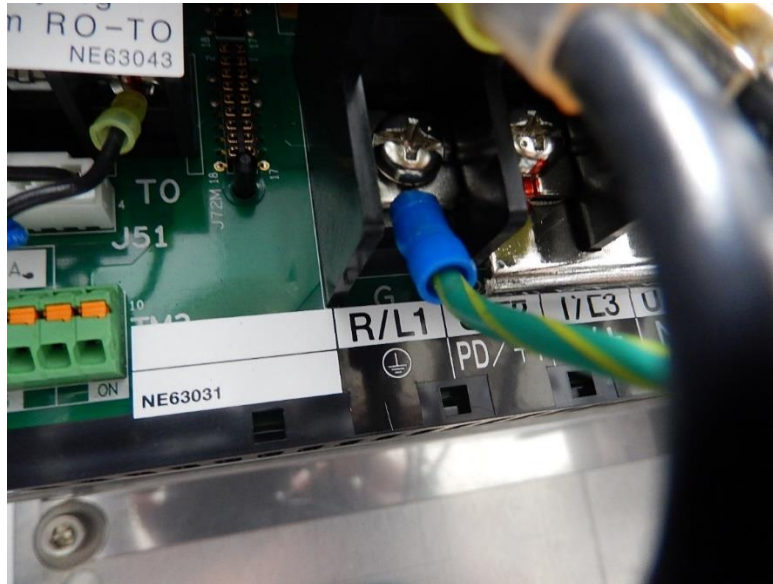

Figure 9: Earth Ground Connection
6.4.3 **Connect** earth ground wire (GRN or GRN/YEL) to G (\perp) terminal (Bottom Row) on the VFD. See *Figure 9*.